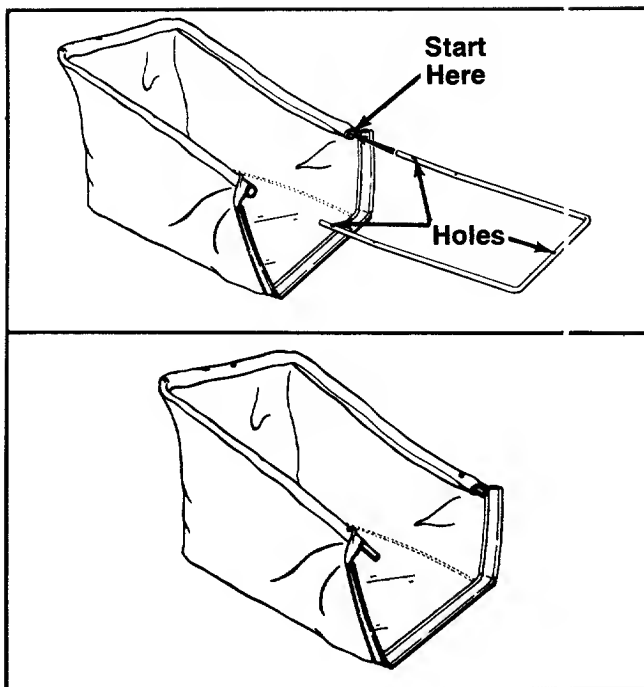

FIGURE 11.
1. There are three holes in the rear frame. With the holes on the upper side as shown in figure 11, insert one end of the rear frame into the cloth channel on the edge of the grass catcher bag. Feed all the material on one side of the frame before working it around the frame. See figure 11.